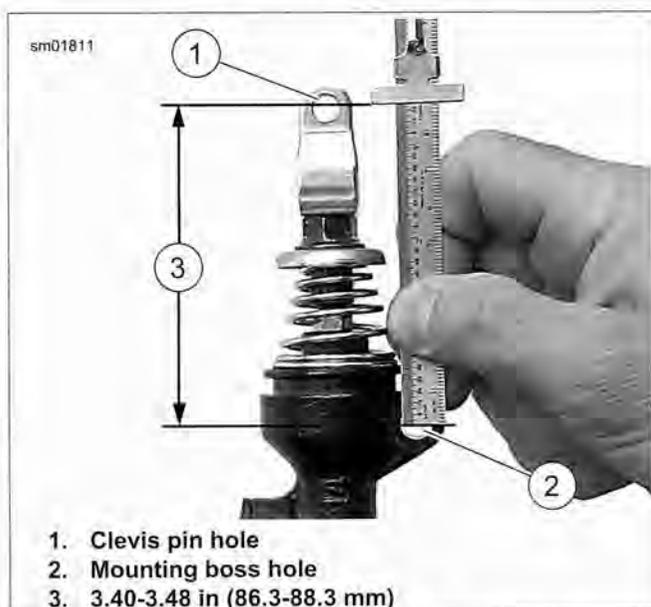

Figure 2-78. Adjusting Push Rod Length
- See Figure 2-78. Measure distance from centerline of clevis pin hole (1) in yoke to centerline of master cylinder mounting boss hole (2) closest to yoke. This distance must be 3.40-3.48 in (86.3-88.3 mm). Turn yoke on push rod in one direction or the other until this distance is obtained.